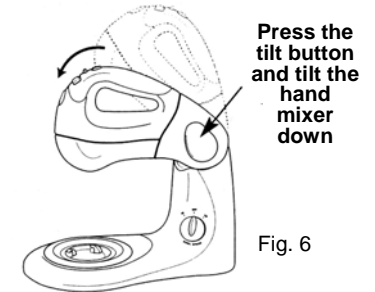

Fig. 6
4. To lower the hand mixer, press and hold the tilt button with one hand while holding the hand mixer with the other hand and slowly lower the hand mixer down. (Fig. 6)